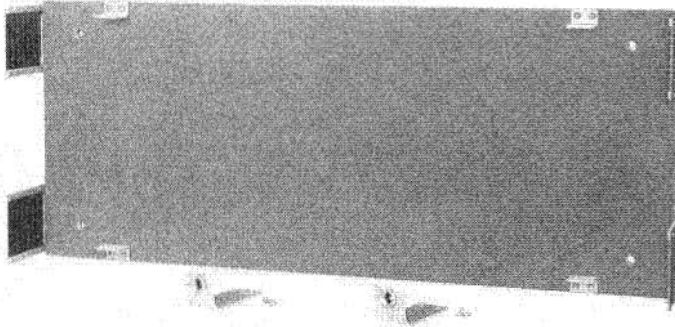

**Fig. 42—Terminal Plate Assembly per ED-69366-50, Group 3**
**9.01** The terminal plate assembly per ED-69366-50, Group 3 (Fig. 42) is used primarily as a distribution terminal for the 26A apparatus mounting.